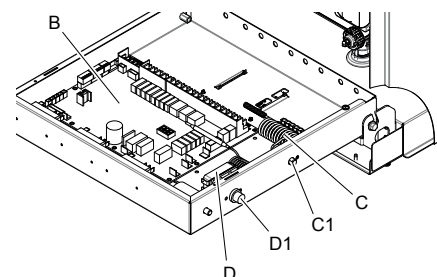

fig. 20 - Internal view of electrical cabinet
**B** Electronic hydronic board (fig. 20)
**C** Thermal cut-off switch for single-phase electric resistance with manual reset button (detail C1 fig. 20)
**D** Thermal cut-off switch for three-phase electric resistance with manual reset button (detail D1 fig. 20)